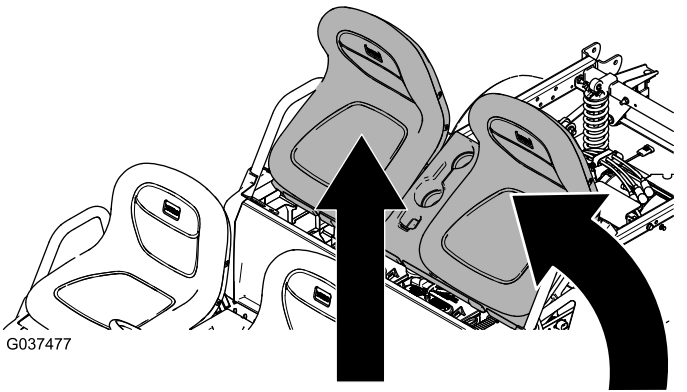

Figure 5
1. If there are existing rear seats, remove them (Figure 5).